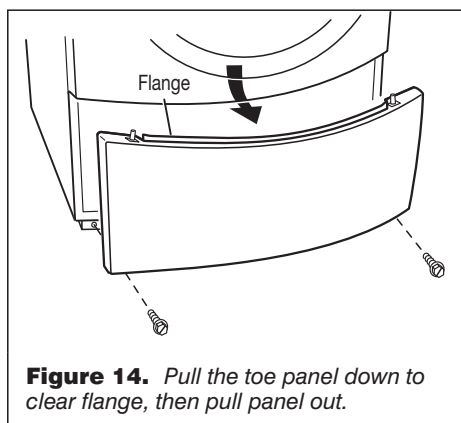

Figure 14. Pull the toe panel down to clear flange, then pull panel out.
3. Slide the toe panel down, then pull it out from the bottom. See figure 14.